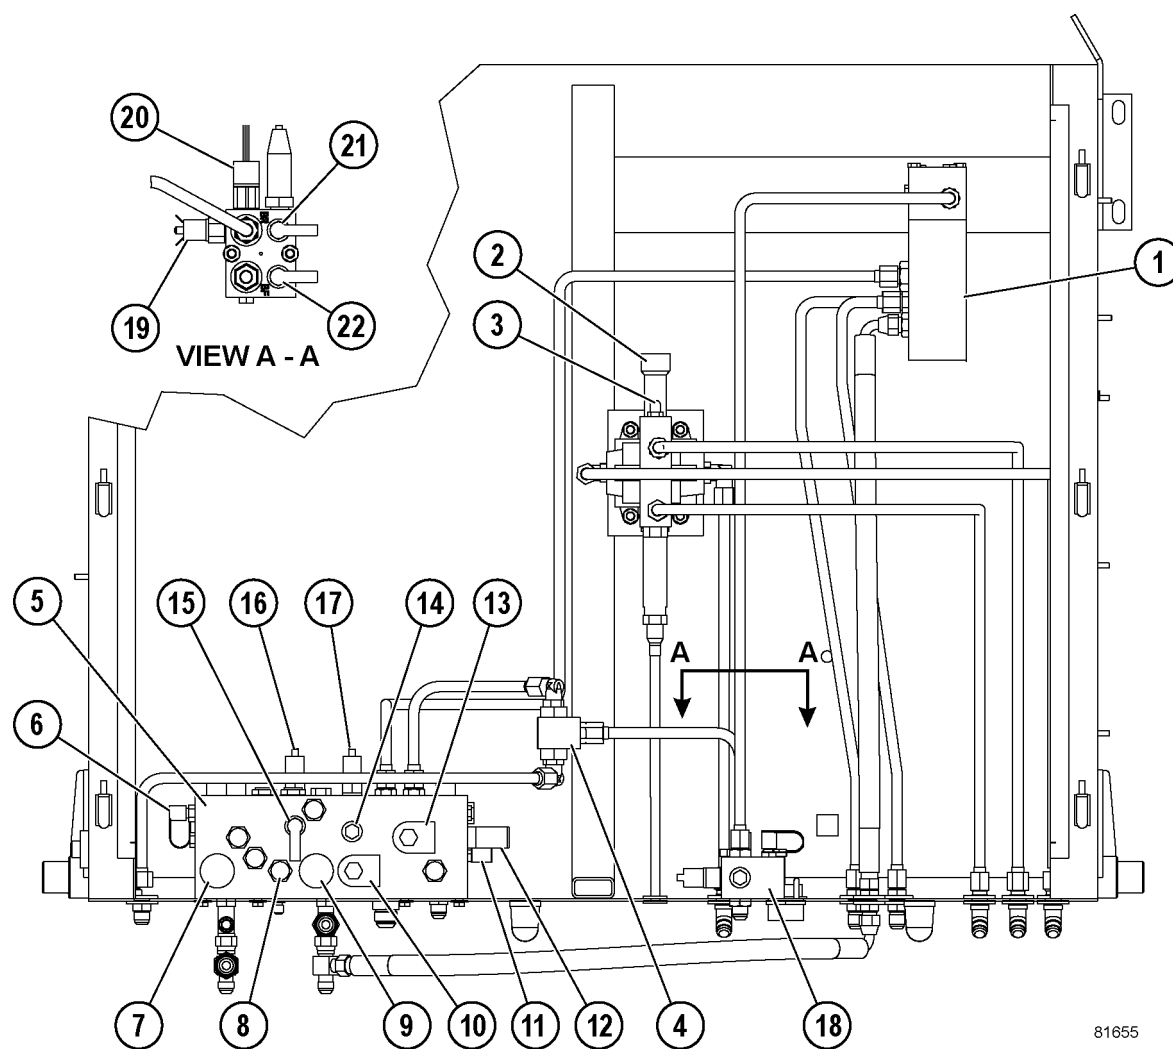

FIGURE 2-1. HYDRAULIC BRAKE CABINET
The brake system consists of several major valve components: the foot-operated dual circuit treadle valve, hydraulically-operated dual relay valves, brake manifold and two accumulators. The dual circuit treadle valve is the only component located in the operator's cab. The dual relay valve for the front brakes, the brake manifold, and the electrical components are located in the hydraulic brake cabinet behind the cab (See Figure 2-1).
Parking brake solenoid (10, Figure 2-1) is energized. The oil flow is routed from the parking brake solenoid to the parking brake pistons for release. The parking brake circuit is protected against accidental application by monitoring a wheel motor speed sensor to determine truck ground speed. The parking brake will not apply until the truck is virtually stopped. This eliminates parking brake damage and will extend brake adjustment intervals.
The primary function of the brake lock is to provide a means for the operator to hold the truck while at the shovel or dump. **The brake lock only applies the rear service brakes.** It may also provide a secondary means of stopping the truck in the event of a brake valve malfunction. By turning on the dash mounted wheel brake lock switch, brake lock solenoid valve (13, Figure 2-1) and pressure reducing valve (12) will apply unmodulated pressure oil at 17 237 kPa (2,500 psi) to fully actuate the rear brakes. Shuttle valve (4) in the rear brake line provides the independence from the brake treadle valve for brake application.
The brake warning circuit is equipped with a low brake pressure warning light on the overhead panel and an audible alarm in the cab to alert the operator to low brake pressures. Several electrical sensors, a relay and delay timer are used to detect brake system problems. See Figure 2-1 for the following component references.